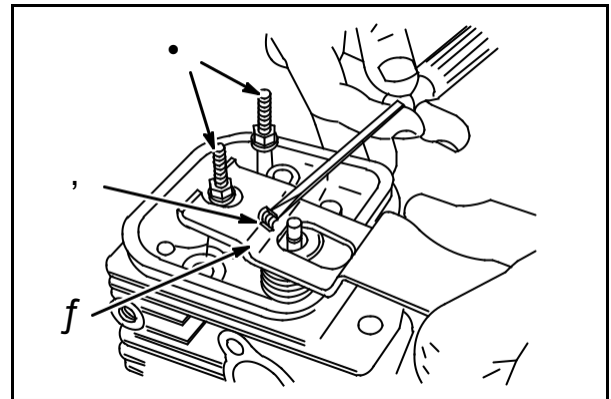

Fig. 7
Compress valve spring and retainer with Valve Spring Compressor (3) #19347, **Fig. 7**.